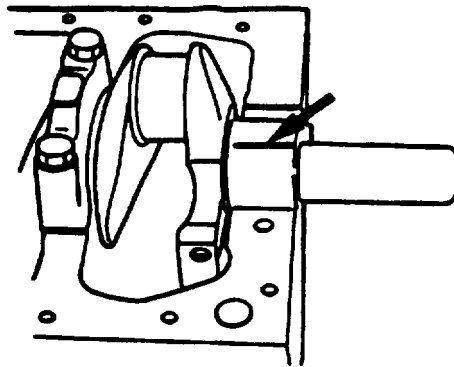

FIGURE 3-90. Crankshaft Journal and Bearing Clearance
- (1) Clean cylinder block, journal bearing surfaces, bearing caps, and bearings.
- (2) Install bearings in cylinder block.
- (3) Carefully place crankshaft on bearings.
- (4) Rotate crankshaft approximately 30 degrees to seat bearings.
- (5) Place bearing gage over crankshaft journal across full width of bearing, refer to FIGURE 3-90.